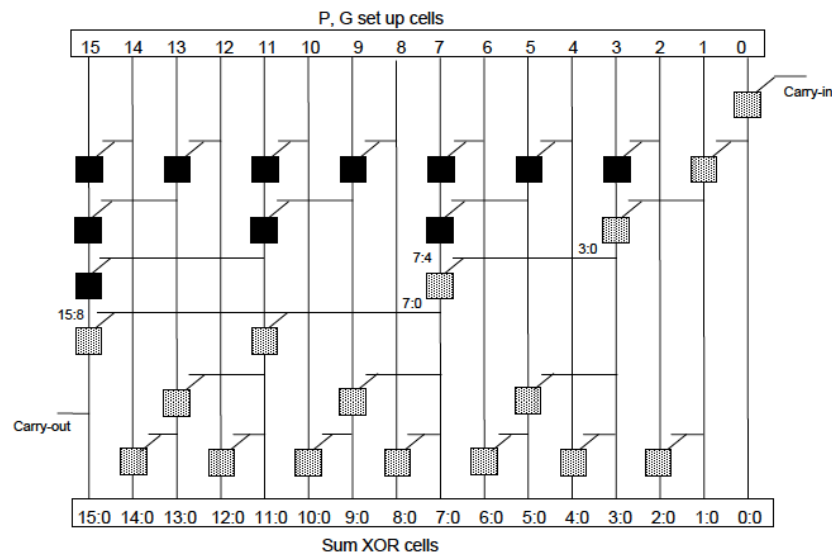
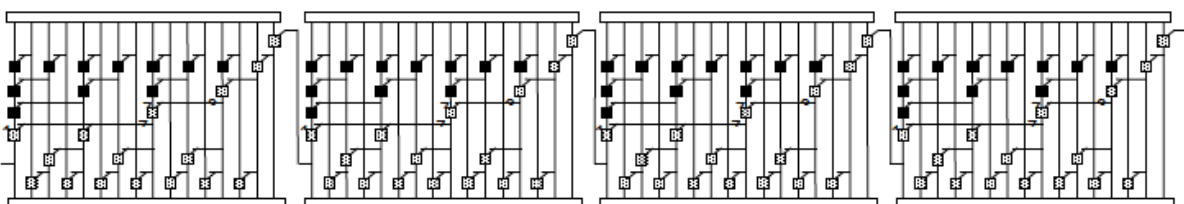

Figure 6: A 16-bit Brent-Kung prefix adder cell with carry-in signal.
Figure 7: A 64-bit adder constructed from four cascaded 16-bit Brent-Kung adders.
Assume that you have a 16-bit Brent-Kung adder available in your cell library; see Figure 6. The 16-bit Brent-Kung adder module is characterized by its set-up delay, t_{pg} , its summation delay, t_{XOR} , and the delay of the PG cells (also called dot-operator cells) in the internal prefix adder tree, t_{AO} . You now intend to construct a 64-bit adder by cascading four such Brent-Kung adders as shown in Figure 7.
- What if you wanted to also calculate the block propagate signal for the Brent-Kung 16-bit adder. What would you need to modify in the 16-bit adder cell shown in Figure 6? The figure is repeated on a tear-off sheet at the end of the exam - indicate your proposed changes on that sheet and hand it in with you solutions. (2 p)